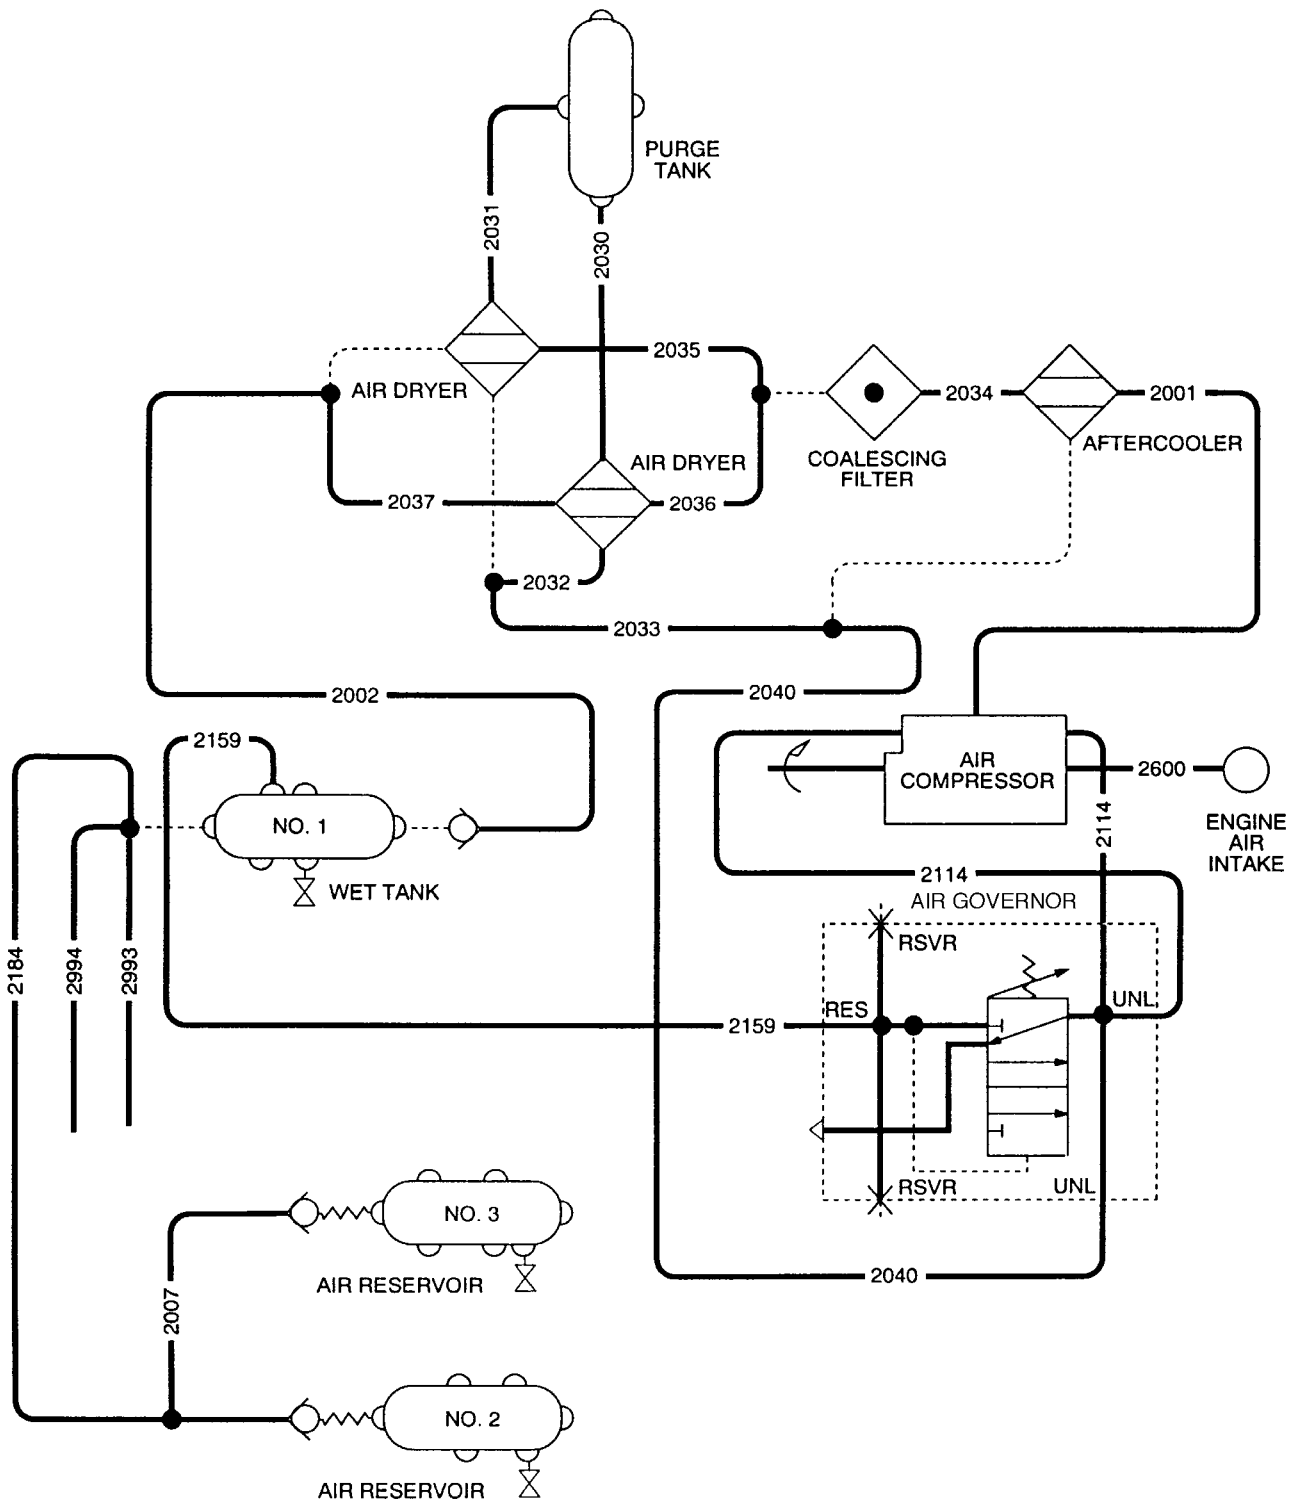

Figure 2-50. Air System Air Diagram
This paragraph covers Air System Troubleshooting. The Air System Fault Index, Table 2-52, lists faults for the air system of the PLS truck. Refer to schematic Figures 2-50 and 2-51 when performing tests and corrective actions.
Check air line 2600 for damage, crimps or leaks (Para 12-36 and schematic Fig 2-50).
Check air line 2001 for damage, crimps or leaks (Para 12-35 and schematic Fig 2-50).
- (1) If air line 2001 is damaged, crimped or leaking; tighten fittings, or replace air line (Para 12-36 and schematic Fig 2-50).
- (2) If there are no leaks, crimps, or damage; air line 2001 and fittings are OK.